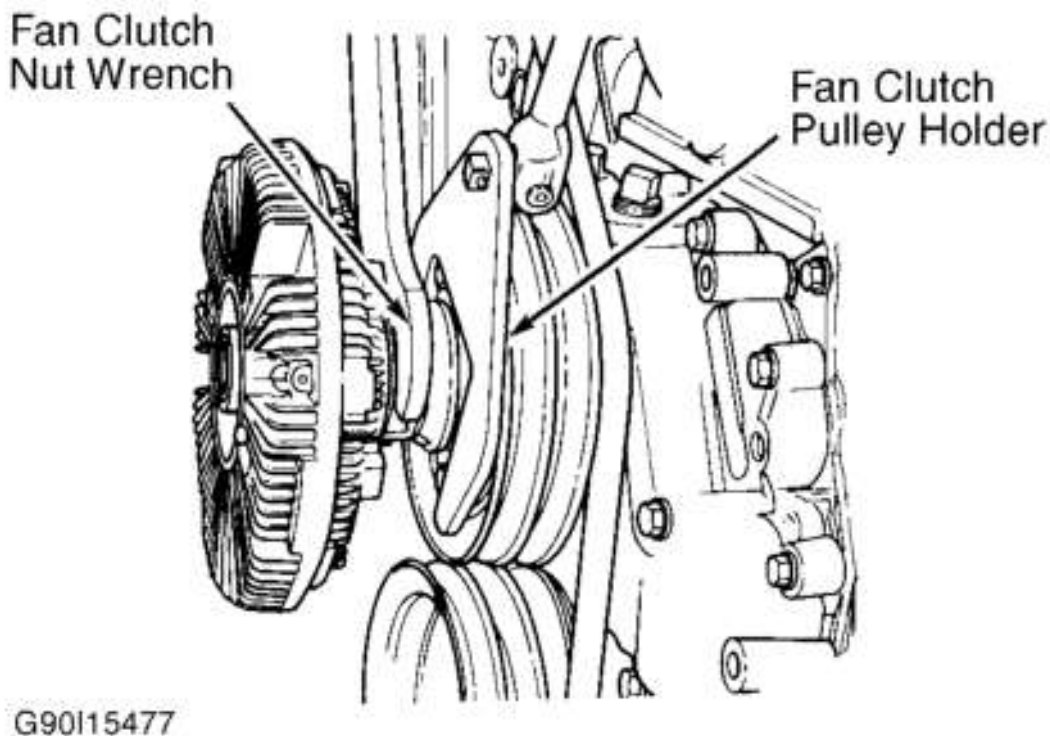

Fig. 9: Removing Fan Clutch
2. Remove alternator and drive belt(s). Using Fan Clutch Pulley Holder (T84T-6312-C) and Fan Clutch Nut Wrench (T84T-6312-D), remove fan and clutch assembly. See **Fig. 9**.
1. Remove negative battery cable. Drain cooling system. Disconnect lower radiator hose and heater return hose from water pump. Using Fan Clutch Pulley Holder (T84T-6312-C) and Fan Clutch Nut Wrench (T84T-6312-D), remove radiator fan and clutch assembly. See **Fig. 9**.